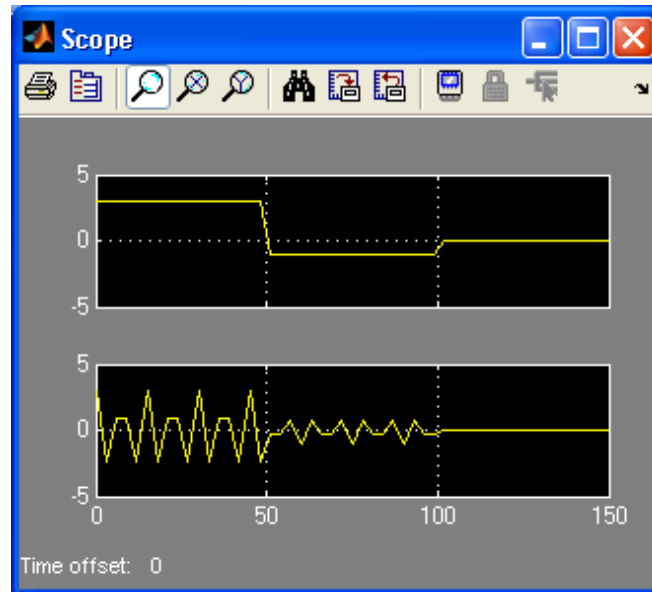
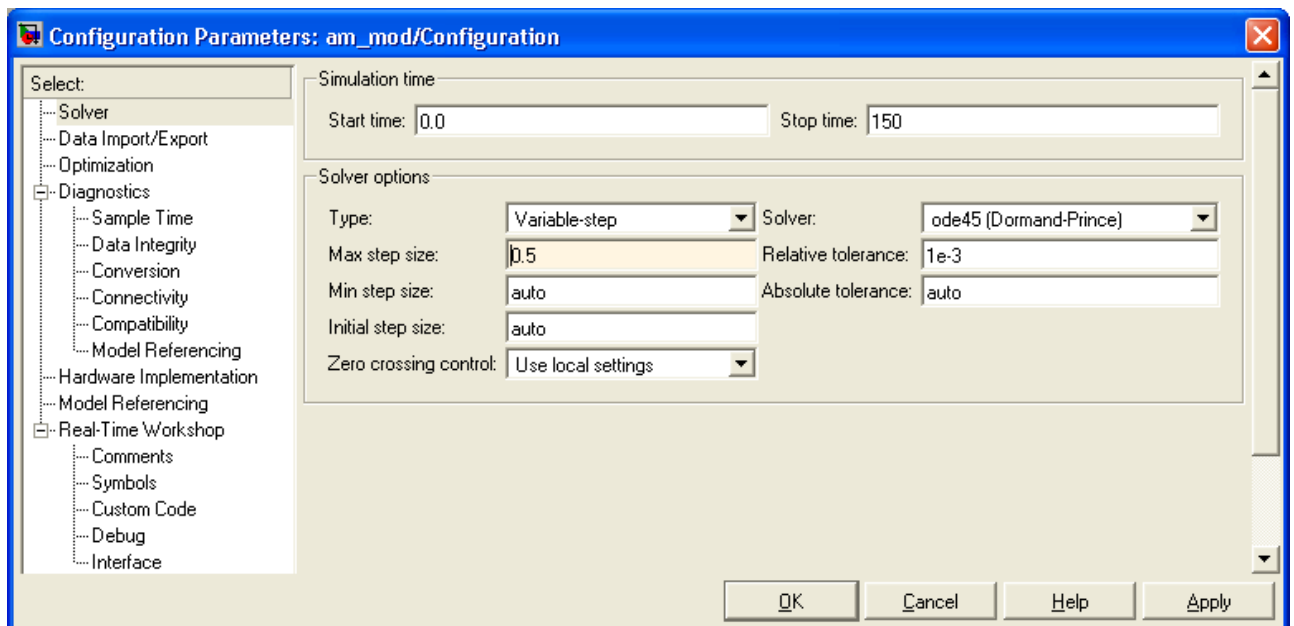

Figure 22: Scope Window
Figure 23: Max step size Modification
- j. Now you are ready to start the simulation by opening the Simulation menu in the am_mod design window and selecting Start (or select the arrow head in the toolbar of the am_mod design window). The Scope windows will display the resulting signals. (If a Scope window is not visible, double-click on the Scope window block.) The resulting bottom Scope window is shown in Figure 22. (Ignore the warning message displayed in the MATLAB Command window).
- k. Figure 22 does not display the expected results. The reason is that the Solver step size is too large. (A discussion on Solvers may be presented later in the class.) Try changing the Max step size in the Configuration Parameter dialog box to 0.5 as shown in Figure 23. Select Apply, then OK.